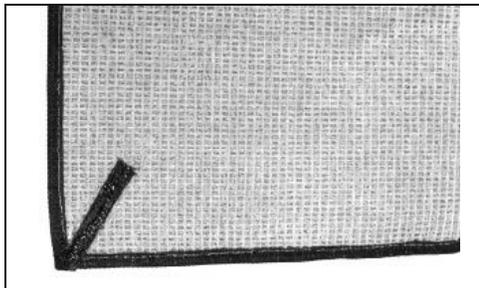

FIG. 17
4. When completed, fold and glue each corner (Figure 17).